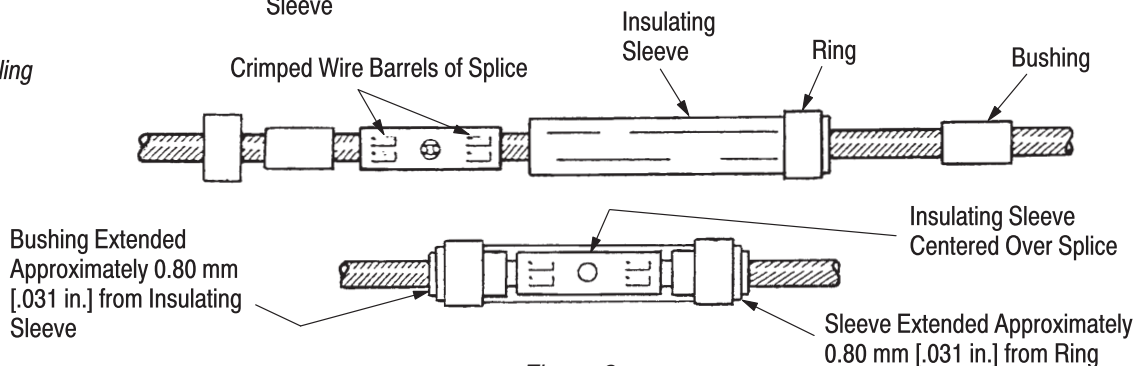

Figure 3
1. Assemble the insulating sleeve over the crimped wire barrel of the terminal or splice as shown in Figure 3. Make sure the bushing butts against, but does not slide over, the crimped cartridge.
2. Check that the insulating sleeve extends approximately 0.80 mm [.031 in.] from the ring and that the bushing extends approximately 0.80 mm [.031 in.] from the insulating sleeve. Refer to Figure 3.